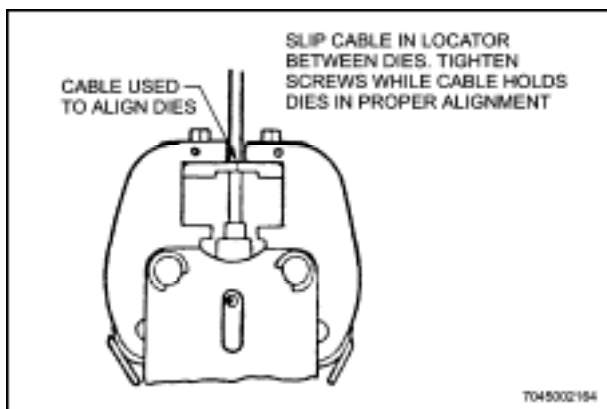

Figure 12-58 Die Alignment
- f. Align dies by placing cable inside locator and squeezing the handles to close tool. After ensuring that the dies are aligned with each other, tighten the die-holding screws (see Figure 12-58).